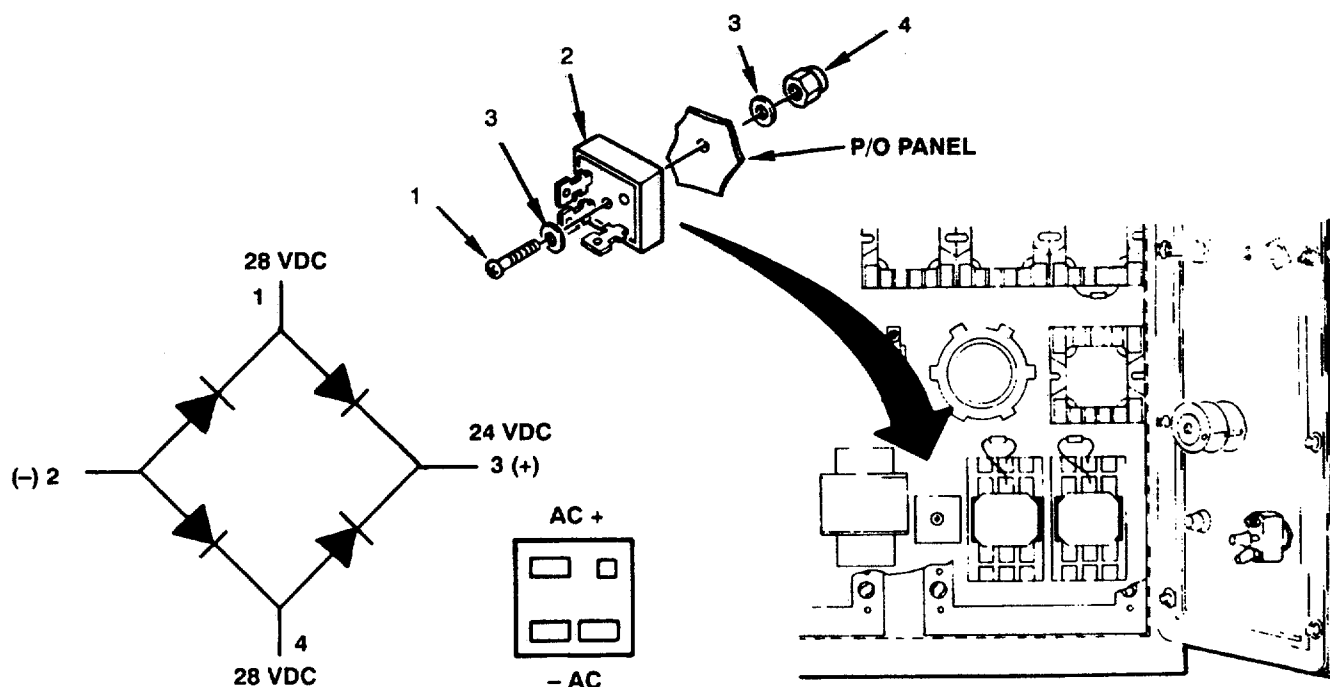

Figure 4-49. Rectifier (CR1)
1. Check that wire leads are properly connected to rectifier and are not damaged (see Figure 4-49 and Figure FO-3).